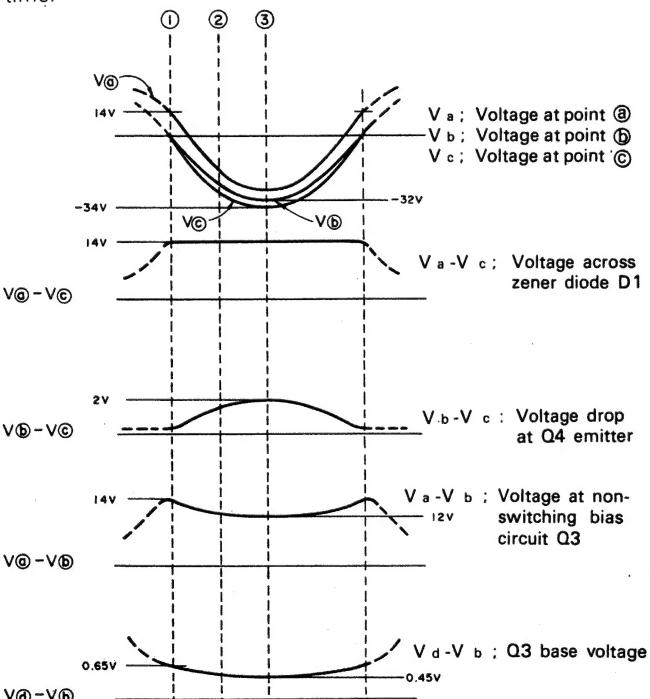

Fig. 8
At the time when the input signal voltage goes from positive to negative ① (Fig. 8), the driver transistor Q1 is conducting a collector current and the zener diode D1 is also in active to produce 14V at point ④. A part of the Q1's emitter current and a current from point a through the resistor are supplied to the base of the power transistor Q3 as a bias current. Then Q3's collector current will be approximately 70 mA.
The above figure shows the states of the circuit when the input signal is negative ② (Fig. 8) and the Q4's collector current is 2A. Since ② amperes flows through the 8-ohm resistor, the voltage at point ④ becomes -16V. Most of this current flows through the emitter resistor of Q4, making -17V at point ③. The voltage at point ④ is higher than that of point ③ by 14V which is the zener voltage of D1, thus resulting in the point ④ voltage at -3V. At this time, Q1 is cut off, and the voltage at point ④ is -15.43V which is the difference of voltages at points ④ and ③ divided by resistors of 2.2 kΩ and 100Ω.
When the signal voltage becomes larger in negative ③ (Fig. 8), the voltage drop across the Q4's emitter resistor increases, resulting in a reduction of Q3's V_{BE} . Thus the collector current further decreases to become about 10 mA, but the Q3 will never be cut off. The following figure shows the voltage of various points in the circuit in relative to the time.